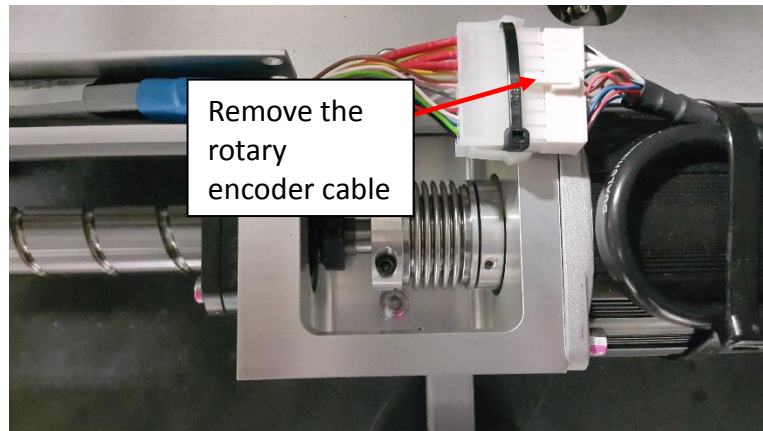

Figure 1 Rotary encoder
1. Remove the rotary encoder cable from the motor as shown in Figure 1.